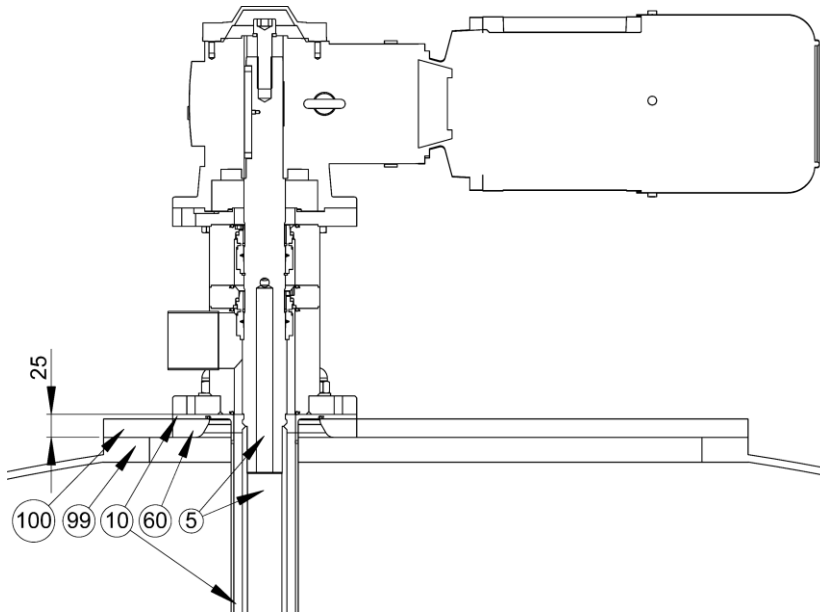

Figure 2, Agitator mounted on tank top
When the horizontal groove in shaft pos. 5 is in the slot in the mounting tool pos. 90, which is positioned on top of the mounting tool pos. 80 or pos. 81, the shaft pos. 5 is in the same vertical position as when the complete agitator is mounted on the welding flange pos. 60 – see Figure 2 and Figure 3 (and figure in section 3.4.5).